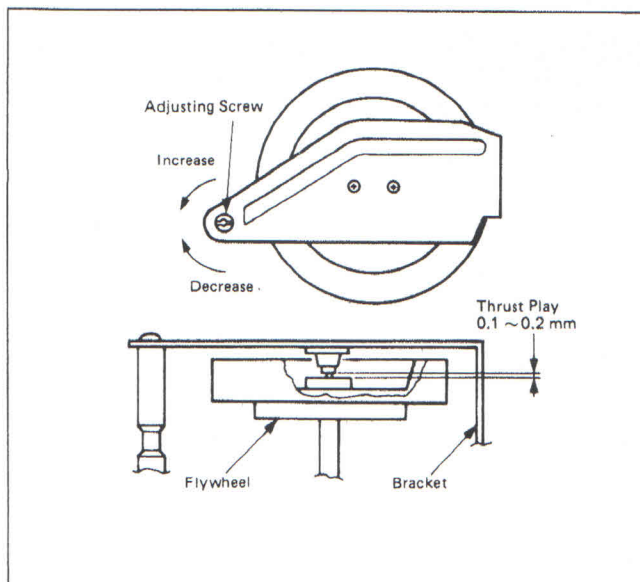

Fig. 3-2
1. Thrust play of the Flywheel or clearance between the Flywheel shaft and bearing area on the Bracket (*Fig. 3-2*) must be within a range from 0.1 to 0.2mm.